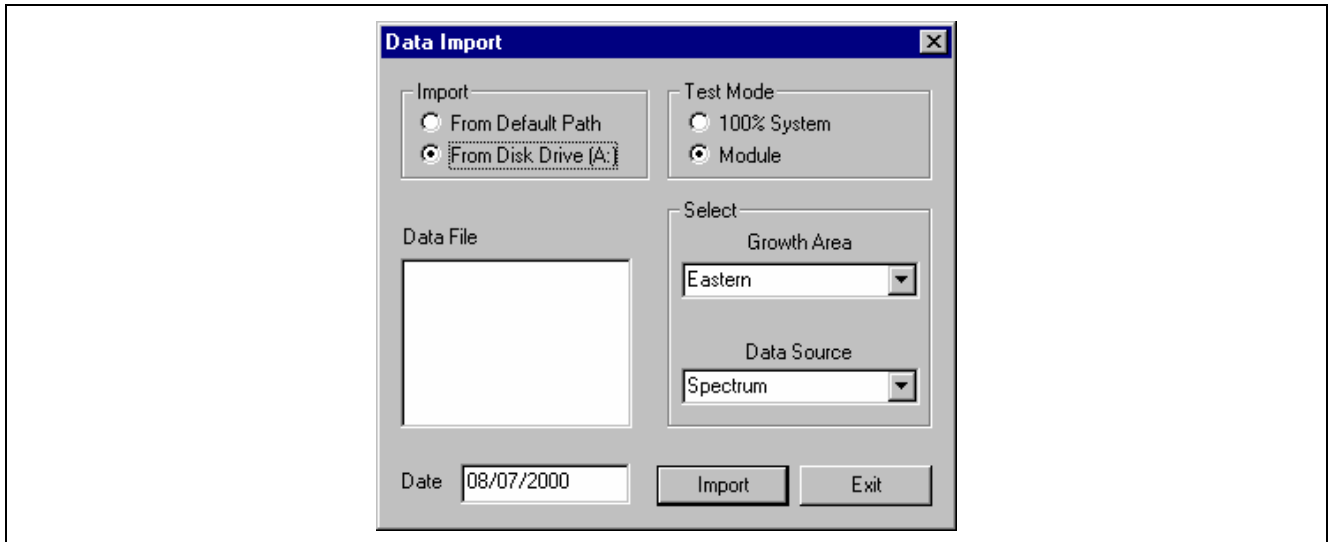

Fig. 6-73 Data Import, Screen II
24.2 Insert Disk 3, "XYZ Yarns" in the A drive of the computer. Under Import select "From Disk Drive A" ("From Default Path" would have been selected if data had come directly from the Database). Under Test Mode select "Module", at Growth Area Select "Eastern" and at Data Source select "" (Fig. 6-73).
Select OK to return to the Data Import window of Fig. 6-73.